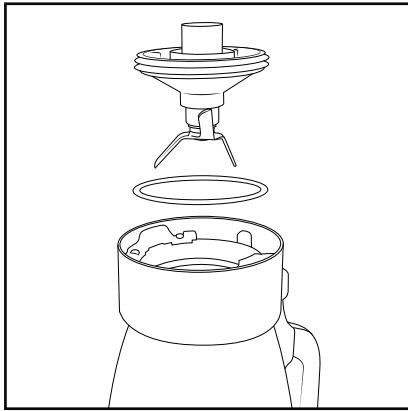

Fig. 5
- To reinsert the blade 17, first check that the sealing ring has been inserted properly (fig. 5). Attach the blade 17 and use the lid catch 14 to turn it clockwise until it sits firmly.